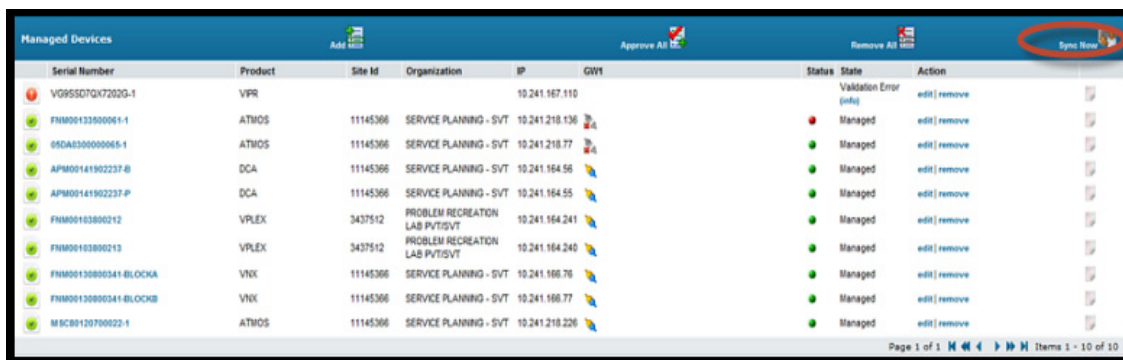

Figure 160 Selecting Sync Now
8. When the migration process is complete, you may have to wait a brief period while the sync process occurs, or you can select the **Sync Now** button on SRS to force an immediate sync process to occur, as shown in Figure 160 on page 123.